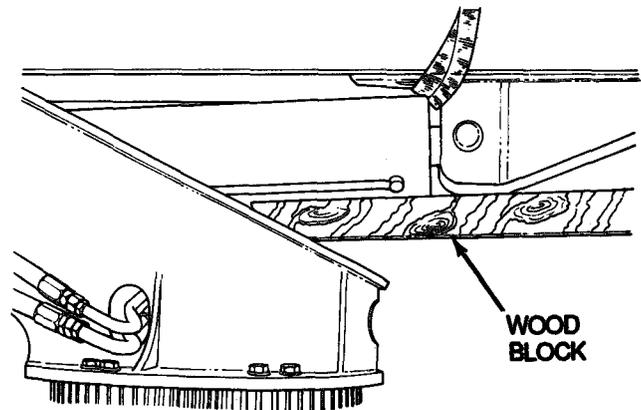

Figure 15-3
5. Start engine. Raise boom 10 degrees and remove wood block (Figure 15-3). Hold anti-two block BY-PASS switch and lower boom. Shut engine off.